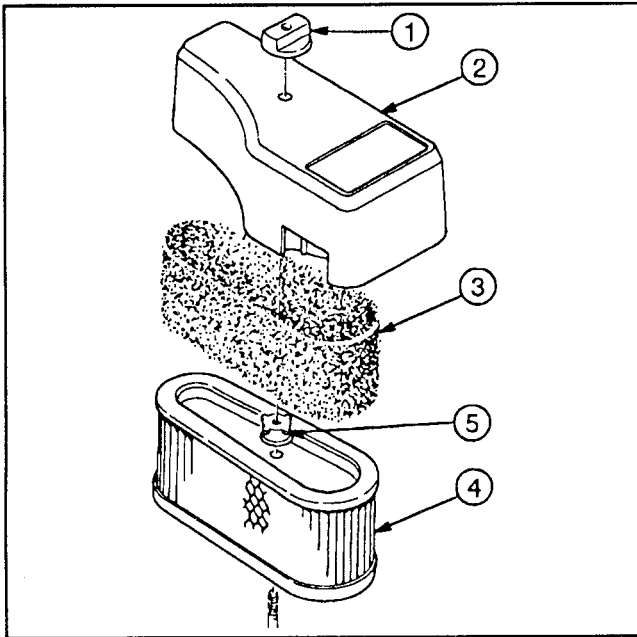

Figure 16
2. Remove the knob and air cleaner cover (Fig. 16).
3. Every 25 hours the foam pre-cleaner should be cleaned (Fig. 16). Remove foam pre-cleaner by sliding it off the paper cartridge (Fig. 16).
4. The paper air cleaner cartridge should be replaced every 100 hours. Remove one nut from the top of the paper cartridge (Fig. 16).